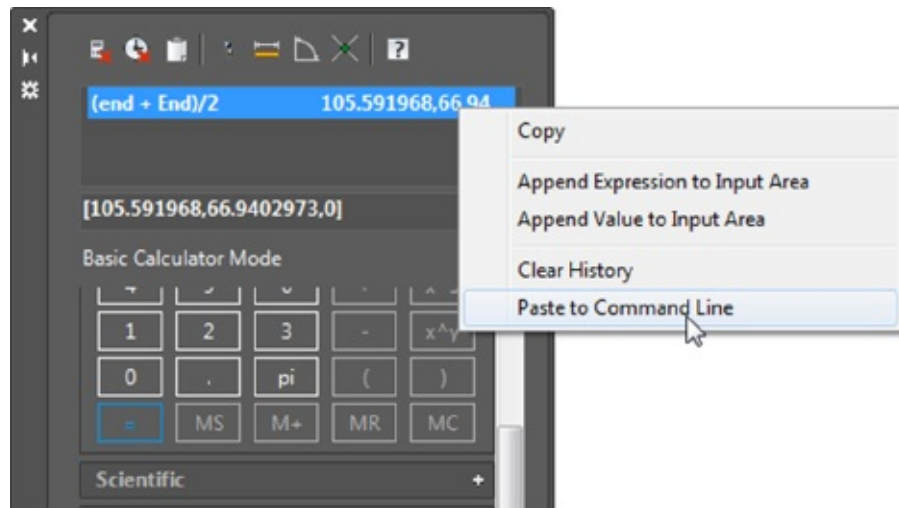

FIGURE 14.30 Select Paste To Command Line.
2. In QuickCalc, right-click the $(\text{end} + \text{end})/2$ listing in the display area, and then select Paste To Command Line (see Figure 14.30).